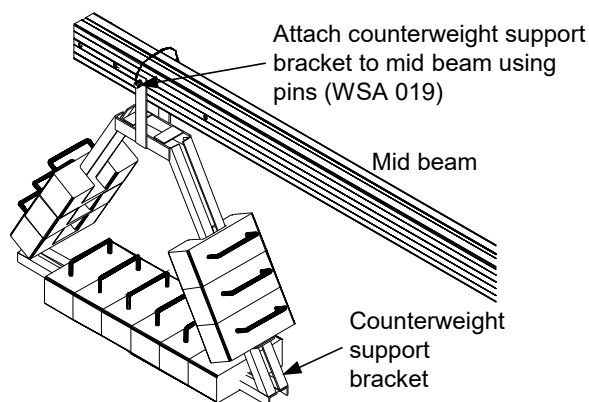
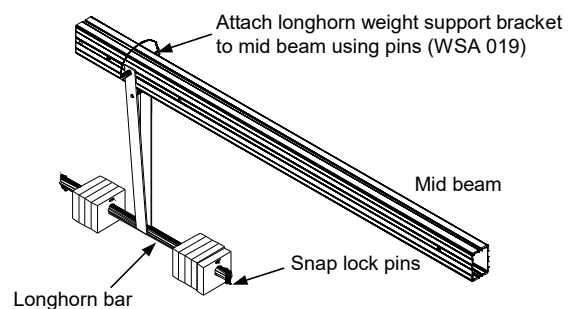

Figure 28. Counterweight Support Bracket Installation
Figure 29. Longhorn Weight Support Bracket Installation
3. Suspend the Counterweight Bracket at the rear of the Mid Beam by inserting pins (WSA 019) through the Mid Beam (see Figure 28). Secure the pins through the retaining clip. Installation procedure is similar for Longhorn Weight Support Bracket (see Figure 29).